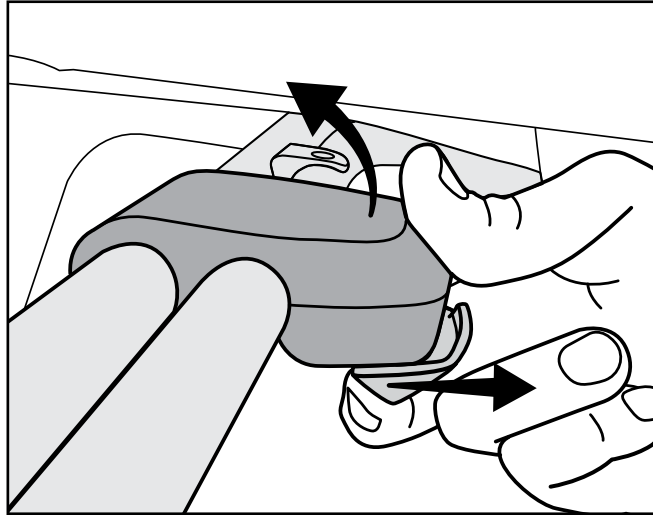

Figure 7
2. Release frame latch by pulling the yellow slider back to disengage the locking mechanism, and rotate upwards (Figure 7).